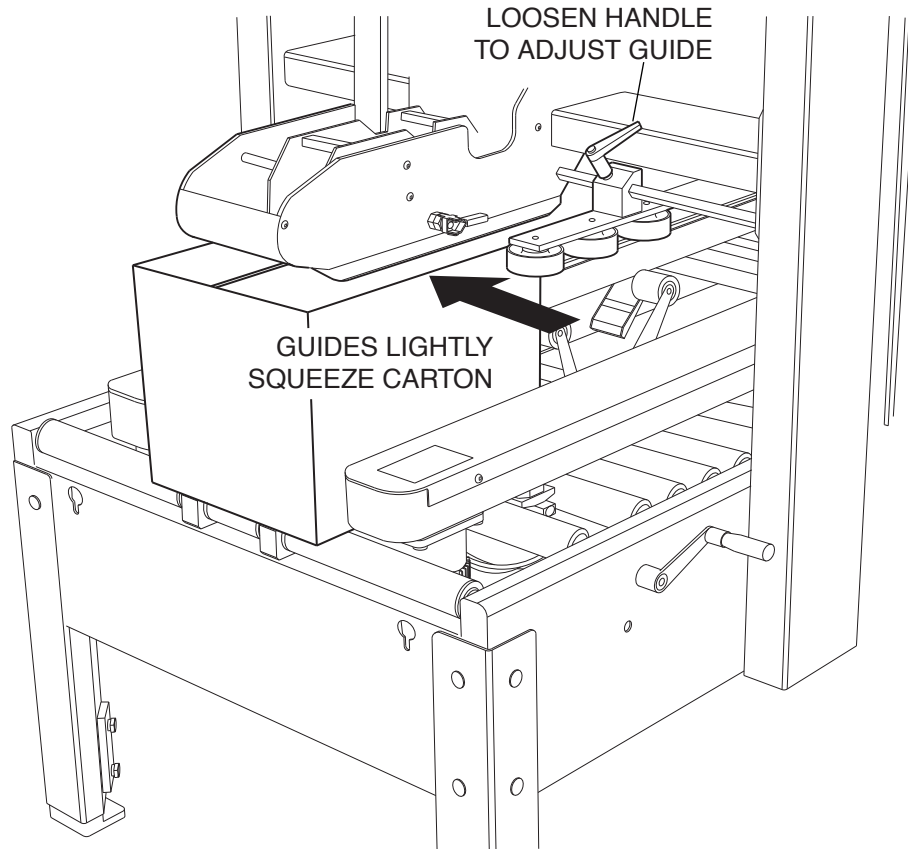

Figure 13
4.5 Compression Guides Adjustment (figure 13)
Compression guides (figure 13) must be adjusted to lightly squeeze the upper part of the carton. This allows the two major flaps to contact each other and therefore insures a better seal. To adjust, loosen the handle then slide guide laterally until pressed against box.